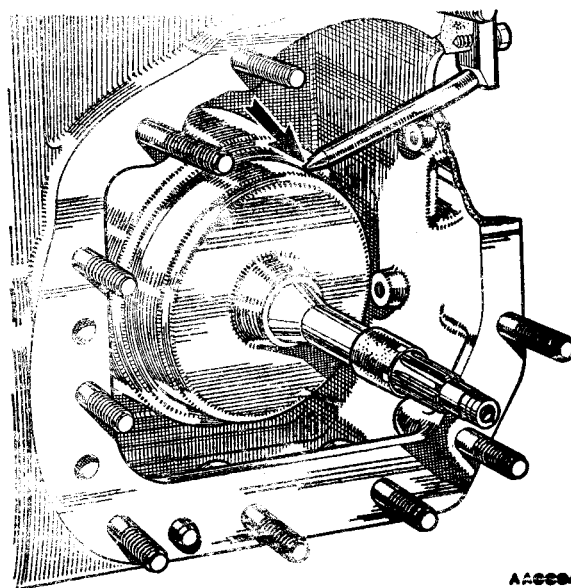

Fig. Fa.19
- 2b. Remove the converter and converter housing as detailed in Section Aa.4, items 1 to 11 and 13.
4. Remove the governor control assembly from the transmission case and fit Service tool 18G 1097 (see Fig. Fa.19).
31. Position the plastic sleeve over the rings on the forward clutch shaft and refit the forward clutch unit. If an earlier unit is being replaced by one of a later type, the reverse shut-off valve must also be changed (see item 10). Fit Service tool 18G 1097 to retain the correct position of the forward clutch unit (see Fig. Fa.19).